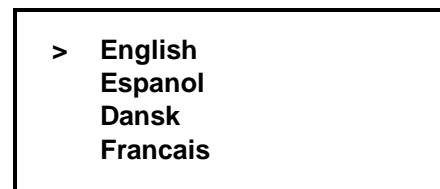

Figure 90
3. You must first select the language to be displayed on the screen. (See Figure 90.)